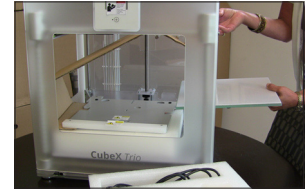

Fig. 8
8. Remove print pad from CubeX. (Fig. 8)